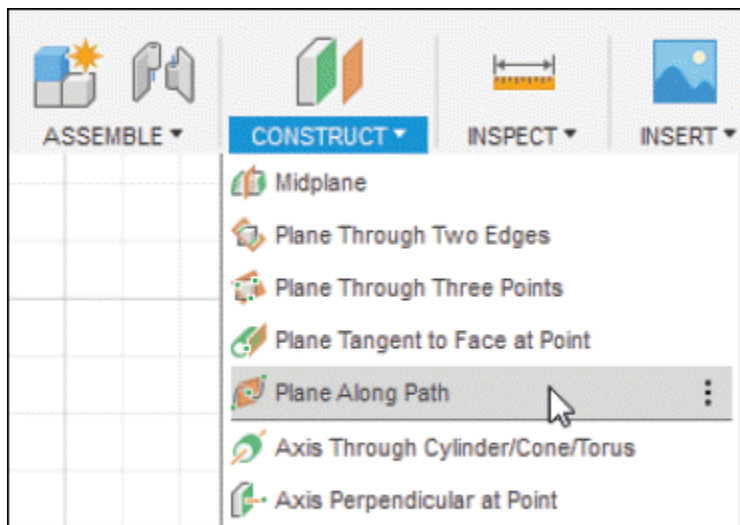
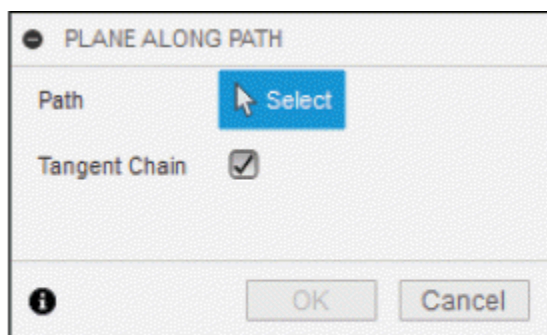

Figure-97. Plane Along Path tool
Figure-98. PLANE ALONG PATH dialog box
- Click on the **Plane Along Path** tool of **CONSTRUCT** drop-down from **Toolbar**; refer to Figure-97. The **PLANE ALONG PATH** dialog box will be displayed; refer to Figure-98.